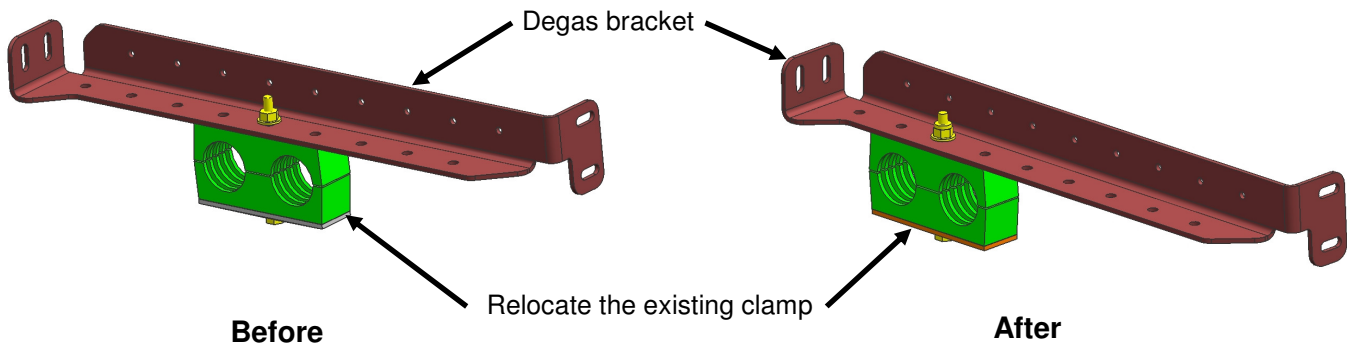

Figure 4: Tube Support Clamp Relocation
15. If the degas bracket has holes instead of slots to mount the tube support clamp to, the clamp and hardware from Step 7 is to be moved two (2) holes rearward and loosely re-installed, as per Figure 4.